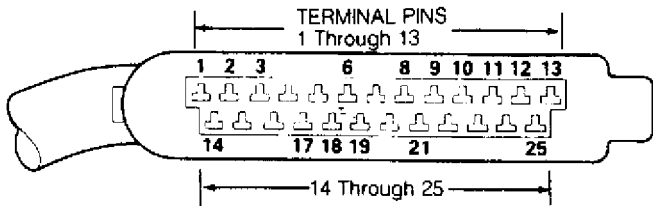

Fig. 3: Vanagon ECU Connector Terminal Identification
1) Turn ignition off. Unplug connector from Electronic Control Unit (ECU). Attach ohmmeter to ECU connector. See Fig. 3. Resistance should correspond to ECU Pin Check of AIRFLOW SENSOR SPECIFICATIONS table.
Turn ignition off. Use a thermometer to measure temperature of coolant. Unplug connector from Electronic Control Unit (ECU). Attach an ohmmeter to terminal No. 6 and No. 10 of ECU connector. See Fig. 3. Resistance should decrease as coolant temperature increases. See COOLANT TEMPERATURE SWITCH SPECIFICATIONS table.
3) If C0 reading does not rise, check for continuity between O2 sensor wire and terminal No. 2 of ECU. See Fig. 3. If continuity exists, replace ECU. For more information, see procedure in PIN VOLTAGES & SENSOR OPERATING RANGES article.